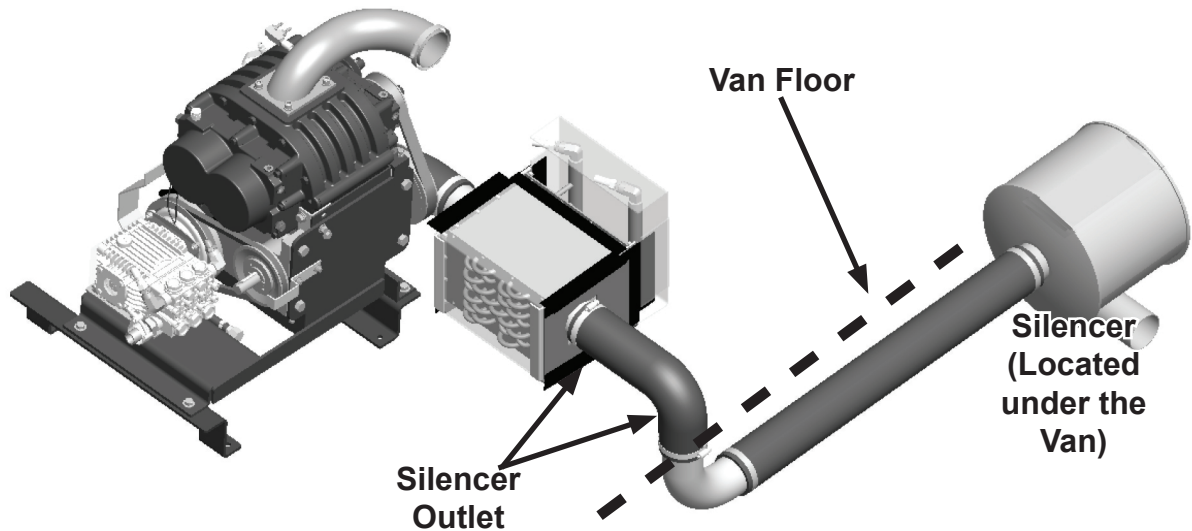

Figure 41. Attach Long End of Elbow to Salsa Inlet
2. Direct the 3” aluminum elbow towards the Silencer outlet (see Figure 41).